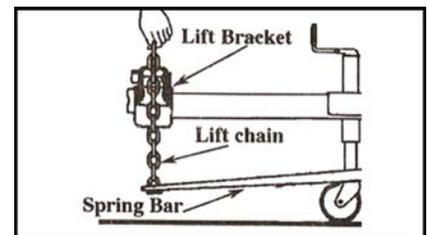

Figure 6: Center the lifting bracket parallel with the spring bar chains.
•Position the spring bar, which has been attached to the hitch head, parallel with the trailer tongue. Hold the lift chain vertical up alongside the trailer tongue. Position the lift bracket on the trailer tongue so that the chain is centered between the lift bracket (see Figure 6). **NOTE:** If chain is angled it may catch the bracket when turning, this can damage the lift bracket or pry it open during use.
•Mark the location of the lift bracket on the trailer tongue then start installing the 1/2" x 3-1/2" bolt ⑥ into the threaded hole in the lift bracket. Turn the bolt in until it contacts the trailer tongue, then tighten 1/4 turn with a wrench. **DO NOT OVERTIGHTEN.**
•With the lift bracket in the raised and locked position, pull straight up firmly on the spring bar lift chain. Note which link is closest to the lift bracket hook. Mark the next lower chain link (see Figure 6).